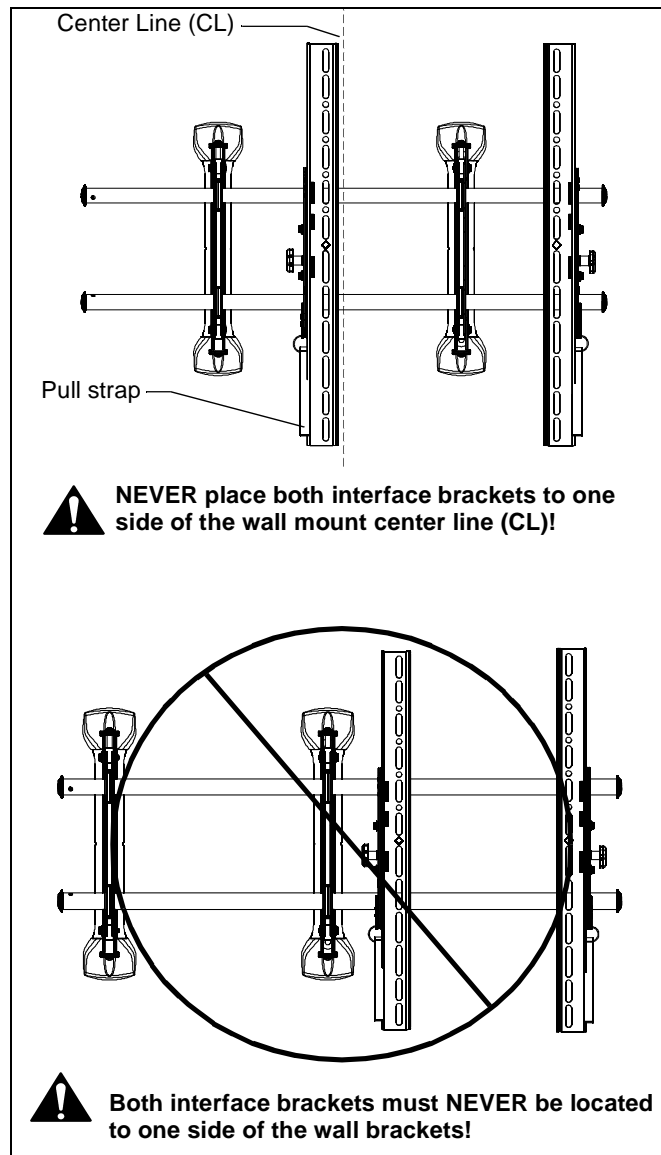

Figure 8
2. Adjust Velcro® pull strap (if necessary) so it does not extend beyond bottom of screen. (See Figure 8)
**NOTE:** NEVER place both interface brackets to one side of the wall mount center line! (See Figure 8)
**NOTE:** Do NOT allow both interface brackets to be located on same side of wall bracket. (See Figure 8)